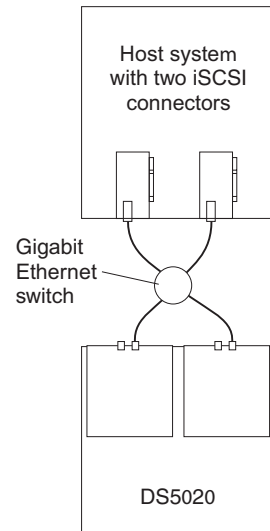

Figure 61. Example of a single-host, multiple-port configuration
- Single-host, multiple-port configuration, as shown in Figure 61 on page 91
Figure 61 shows an example of a multiple port, single-host configuration. A system that uses multiple iSCSI ports can provide enhanced performance compared to a single-port iSCSI connection.